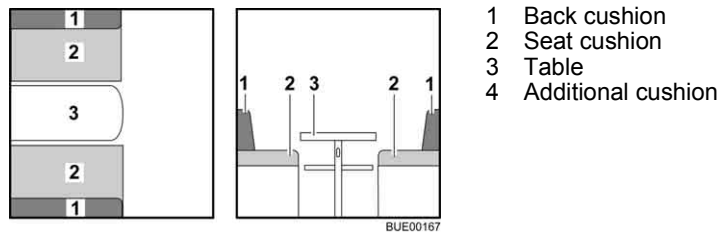

Fig. 123 Prior to conversion
- Convert the table (Fig. 123,3) to a bed foundation (see section 6.11).
- Remove the back cushions (Fig. 123,1) and lay them aside.